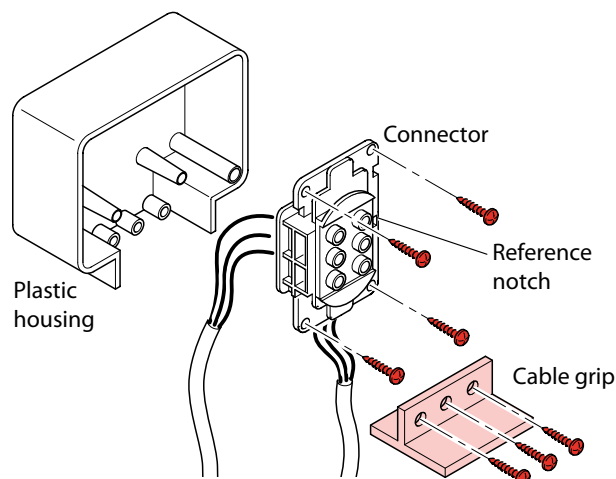

Fig. 4.
1. Wire up the Input-Output connector supplied as shown in figure 4, using insulated cable with wires whose section is at least 2.5 mm².
2. Insert the connector into the plastic housing and secure it using the screws supplied. Secure the wires to the housing using the cable grip (see fig. 4).